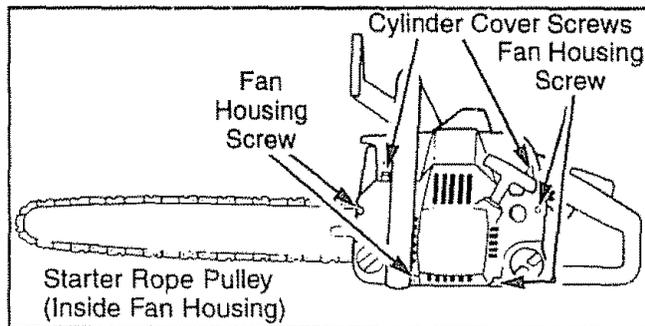

Figure 45
STARTER ROPE REPLACEMENT (Fig. 45, 46, 47, 48 & 49)
- Reinstall the 4 fan housing screws and tighten the 2 cylinder cover screws. Fig 45.